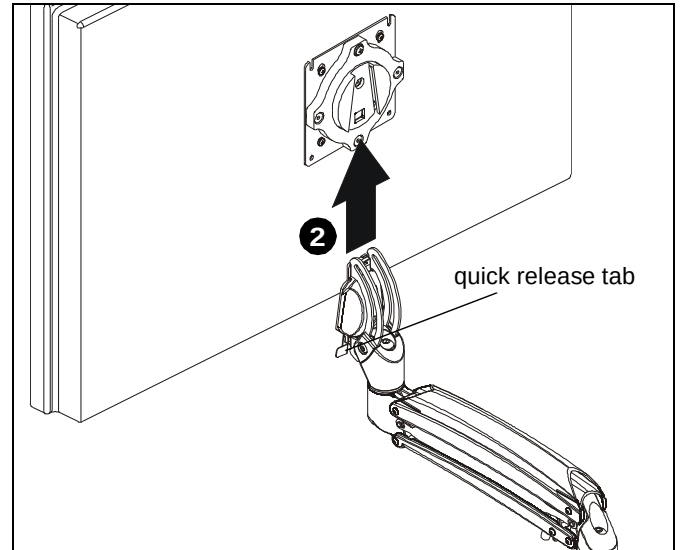

Figure 19
WARNING: Only remove display from mount when the display can be lifted up from the mount! DO NOT remove display unless the display is in the upright position! (See Figure 19)
2. Remove quick release faceplate from mount by pulling quick release lever and sliding faceplate off mount. (See Figure 19)